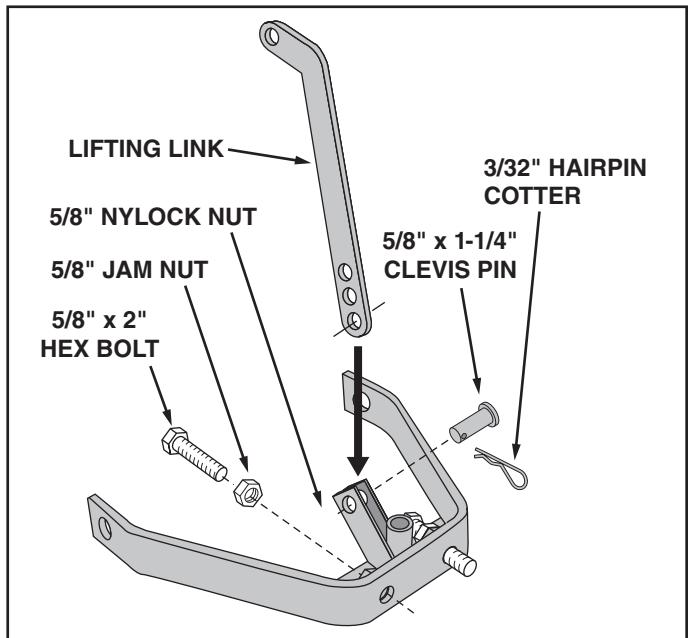

FIGURE 7
11. Assemble the two 5/8" jam nuts halfway onto the two 5/8" x 2" hex bolts. Screw the bolts into the nuts that are welded to the Sleeve Hitch Lift Assembly. Snug the jam nuts against the welded nuts. See figure 7.
12. Assemble the lifting link to the Sleeve Hitch Lift Assembly using a 5/8" x 1-1/4" hex bolt and a 3/32" hairpin cotter. Use the bottom hole in the lifting link (lowest implement depth setting). Tighten the nut only until snug. Do not squeeze the welded arms together. See Figure 7.